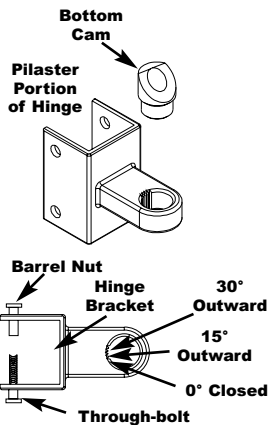

FIGURE 8
A. The cam should be set to same desired position on upper and lower hinge assemblies. See figure 8.